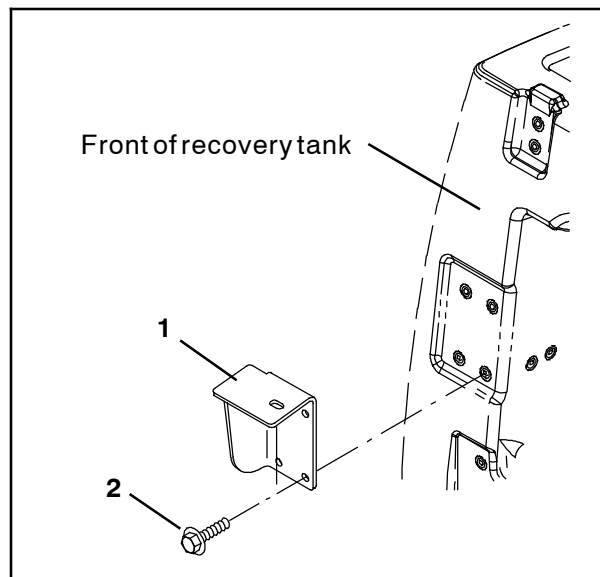

FIG. 1
1. Use four SEMS M8 X 1.25 hex screws (2) to install the overhead guard mounting bracket (1) onto the front to the recovery tank. (Fig. 1)